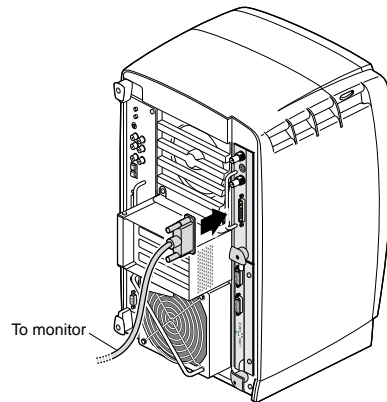

Figure 2-18 Reconnecting the Monitor Cable
9. Reconnect the monitor cable (see Figure 2-18) and all XIO cables to the XIO Tri-Module.